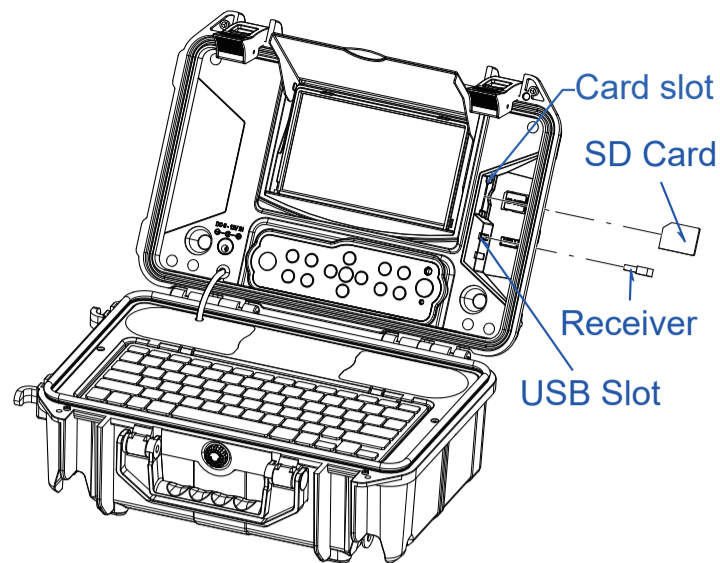

Figure 13. Install SD Card
5. Install SD card (Figure 13.)